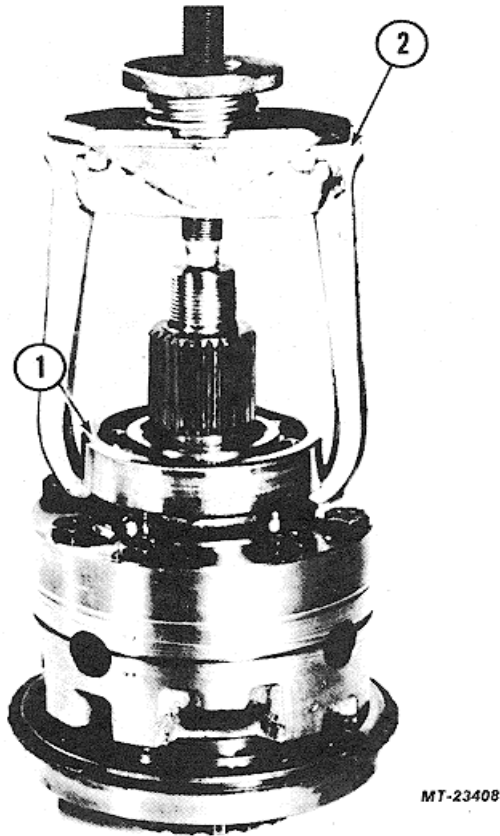

Fig. 9. Removing Front Bearing From Inter-Axle Differential
5. If necessary to remove bearings from diff case, pull bearings using suitable pullers (Fig. 9).